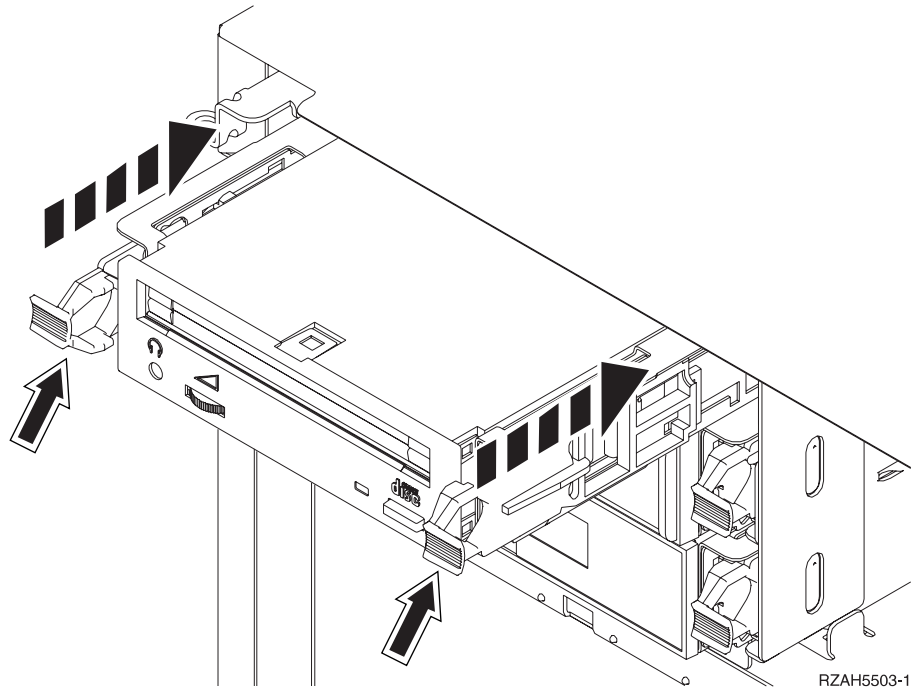

Figure 5. Installing removable media device
- \_\_\_ 4. Refer to Figure 5 on page 11 and support the bottom of the removable media device as you slide it half way into the selected position. Do not push it any further.